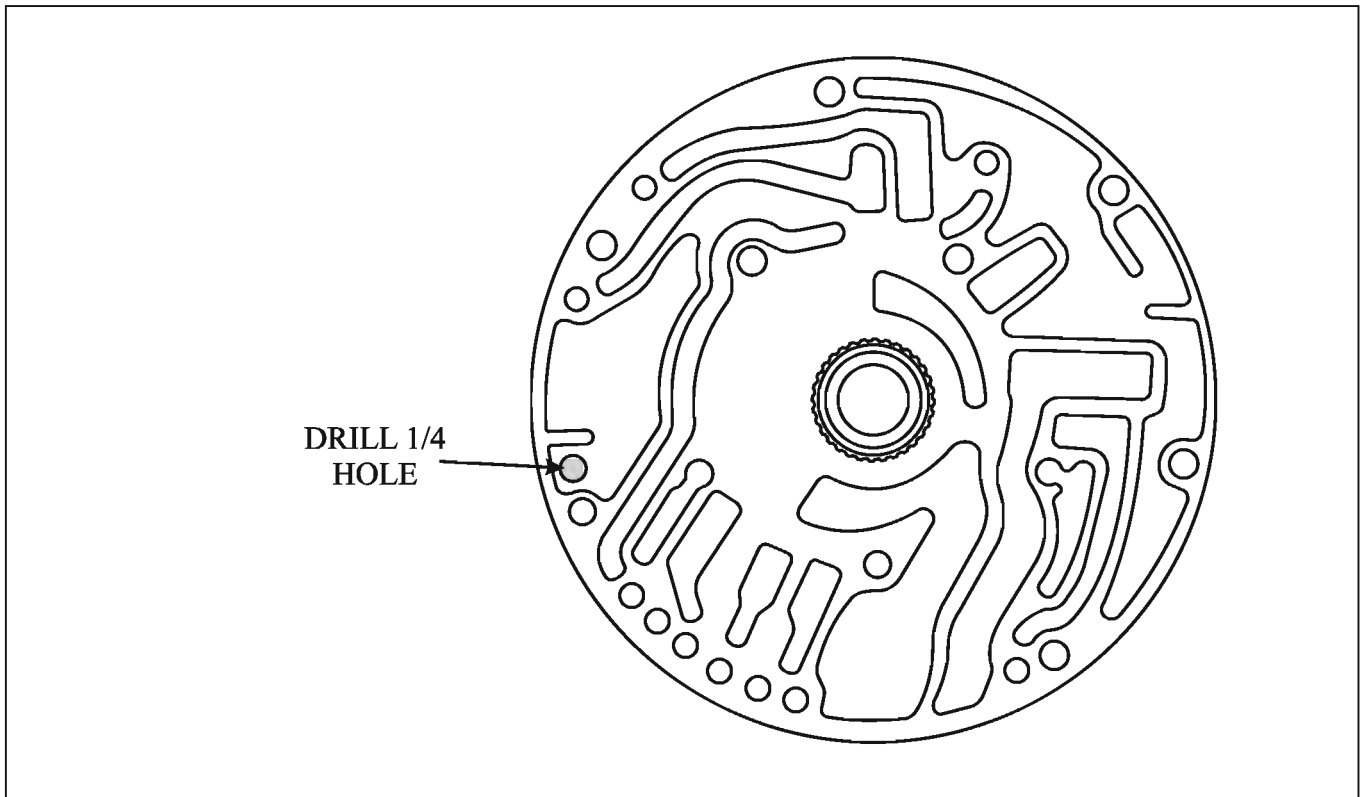

Figure 80
- 2 - Drill 1/4" hole in drain back area, *as shown in figure 80*.